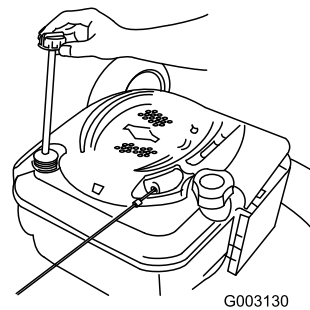

Figure 37
2. Retirez la jauge (Figure 37).